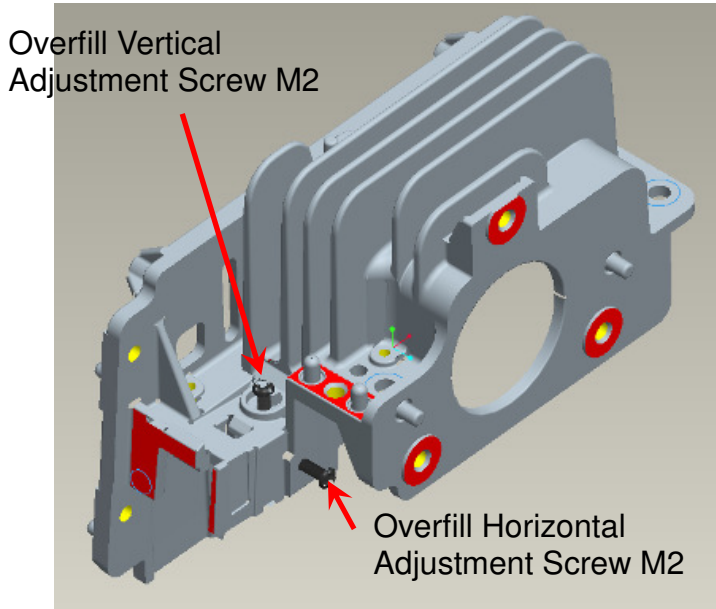

Fig. 1-9
- (1) Assemble two Overfill adjustment screws (M2) to HSG DMD (Fig. 1-9).